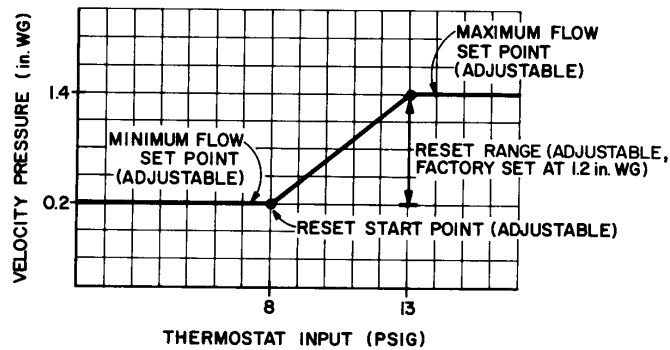
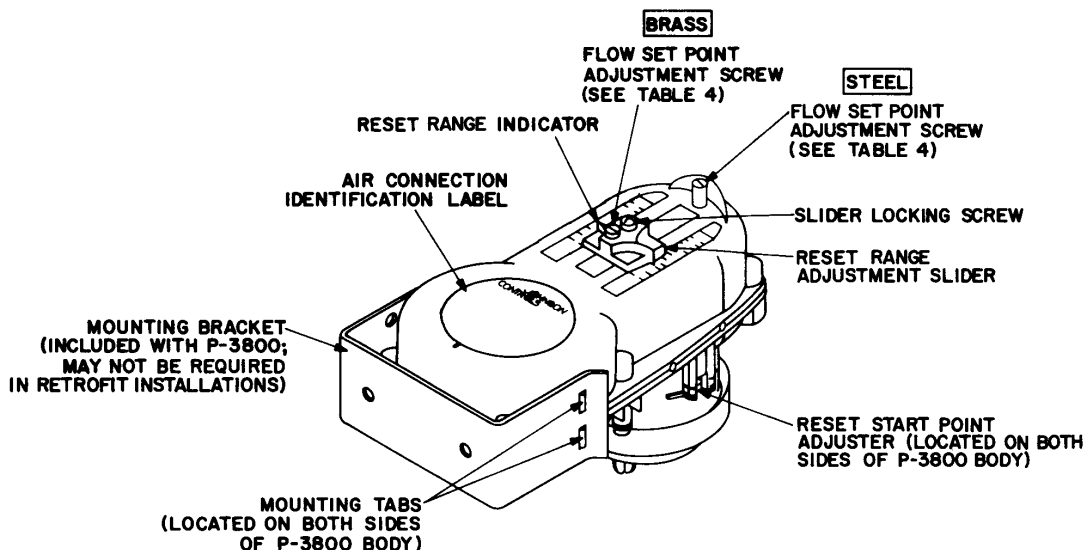
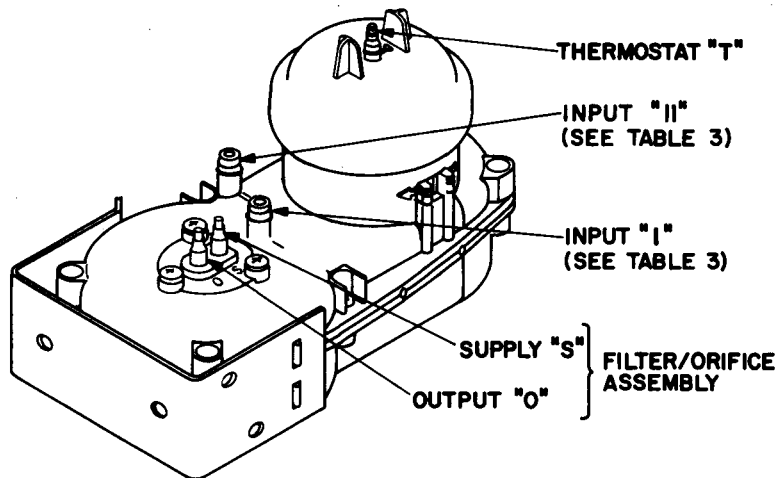

Fig. 4: Set Point Function with Reset
Fig. 6: P-3800 Adjustments
Fig. 8: P-3800 Barbed Air Connections
5. The indicator on the reset range adjustment slider of the P-3800 (see Fig. 6) is factory set at approximately 1.2 in. WG (299 Pa). The desired reset range is the difference between the desired maximum and minimum flow set points, as measured in inches water gage velocity pressure (see Fig. 4). Before connecting any of the existing air lines to the P-3800, loosen the slider locking screw and move the reset range adjustment slider to the desired reset range (as indicated on the VAV box or the system drawing). Tighten the slider locking screw to secure the reset range adjustment slider at the desired setting.
6. The thermostat reset start point adjuster on the P-3800 (see Fig. 6) is factory set at approximately 8 PSIG (56 kPa) for the P-3800-1 and 3 PSIG (21 kPa) for the P-
- Referring to the air connection identification label attached to the surface of the P-3800 (see Fig. 6) and the notations made in Step 1, connect all air lines EXCEPT THE THERMOSTAT AIR LINE to the appropriate barbed air connections on the P-3800 (see Fig. 8).
- Locate the two sets of mounting tabs on both sides of the P-3800 body (see Fig. 6) and install the P-3800 into the existing mounting bracket retained in Step 2, until the mounting tabs "click" into the slots on the mounting bracket.
- Referring to Fig. 6, adjust the brass screw to the desired set point (either maximum or minimum flow as identified in Table 4) to correspond to the value indicated on the VAV box or the system drawing. Turn the screw in small increments until the magnehelic gage or manometer (teed into the high and low pressure pickup lines) reads the desired flow set point.
- Connect the thermostat air line (identified in Step 1) to the thermostat "T" barbed air connection on the P-3800 (see Fig. 8).
- Referring to Fig. 6, adjust the steel screw to the desired set point (either maximum or minimum flow as identified in Table 4) to correspond to the value indicated on the VAV box or the system drawing. Turn the screw in small increments until the magnehelic gage or manometer (teed into the high and low pressure pickup lines) reads the desired flow set point.
To avoid entire unit changeout and recalibration should an air supply system oil contamination problem arise, the P-3800 is equipped with a replaceable filter/orifice assembly (see Fig. 8). This filter/orifice assembly is also available separately as a repair part; order P-3800-600.